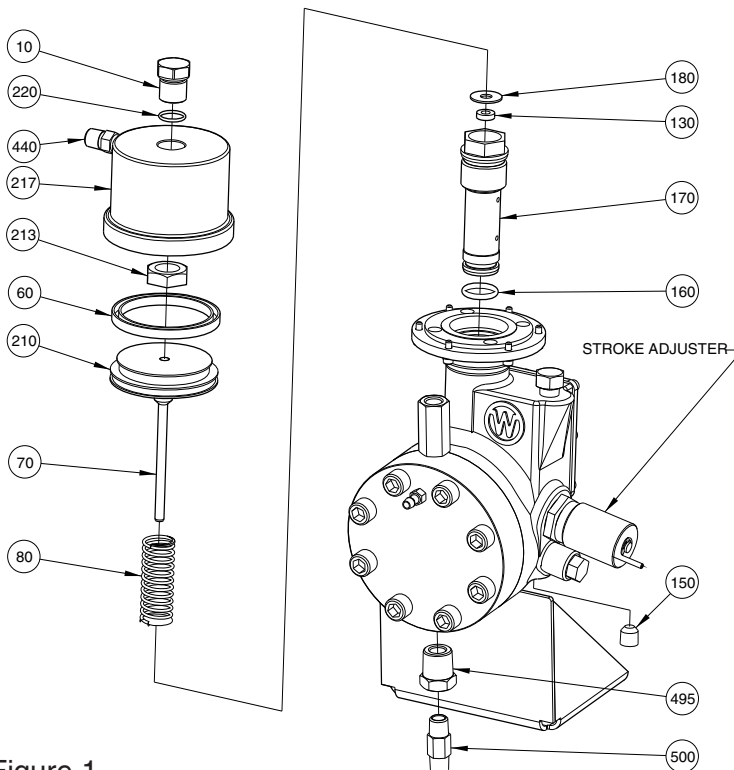

Figure 1
- 1.1 Using a 3/16" hex wrench, remove the drain plugs (Fig. 1, item 150) at the bottom of the Wilroy™ pump, and drain the pump of all oil.
Refer to Figure 1 for the following procedure: